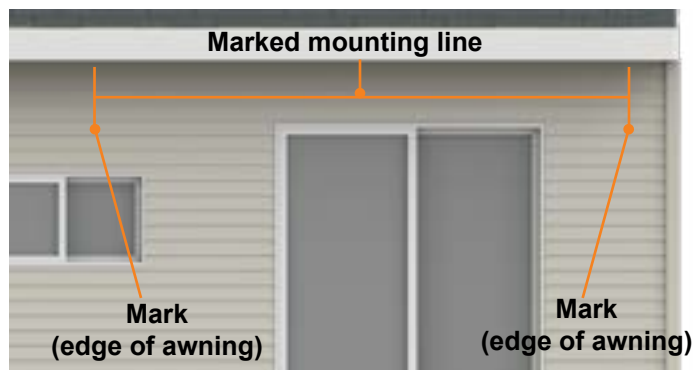

Fig.25
4. Mark the left and right ends of the awning on the mounting line (Fig. 25).